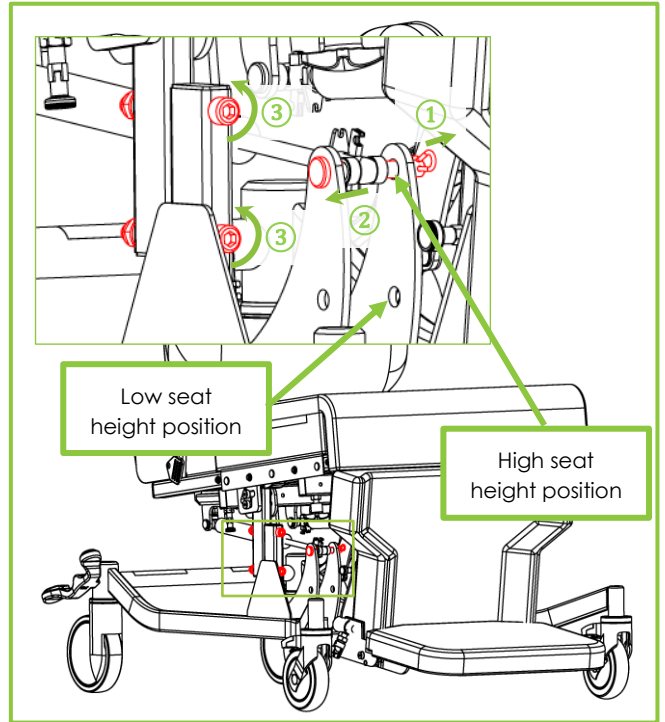
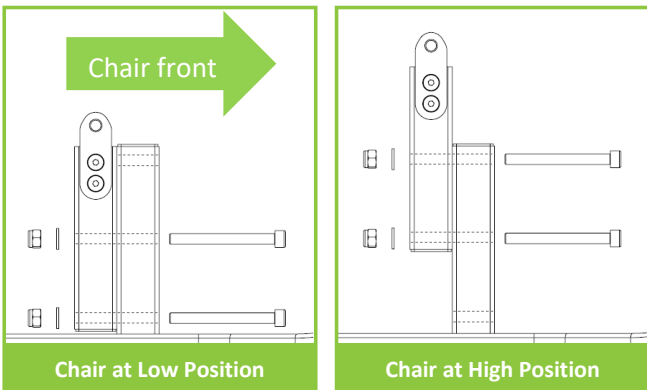

Figure 18 – Actuator and chair mounting
Figure 17 – Chair support fixings
4. Remove R clip from tilt gas strut clevis pin (Fig 18, Item 1).
5. Remove clevis pin from the base frame (Fig 18, Item 2).
6. Using a 17mm spanner and 8mm Allen key, undo and remove two bolts, nuts, and washers on left-hand and right-hand side of base frame (Fig 17; Fig 18, Item 3).
7. Move the base frame to the new position. Figure 17 shows the relative positions of the chair supports and the bolt positions.
8. Refit the bolts, nuts and washers taken out in step 6 in the new position (Fig 17; Fig 18, Item 3).